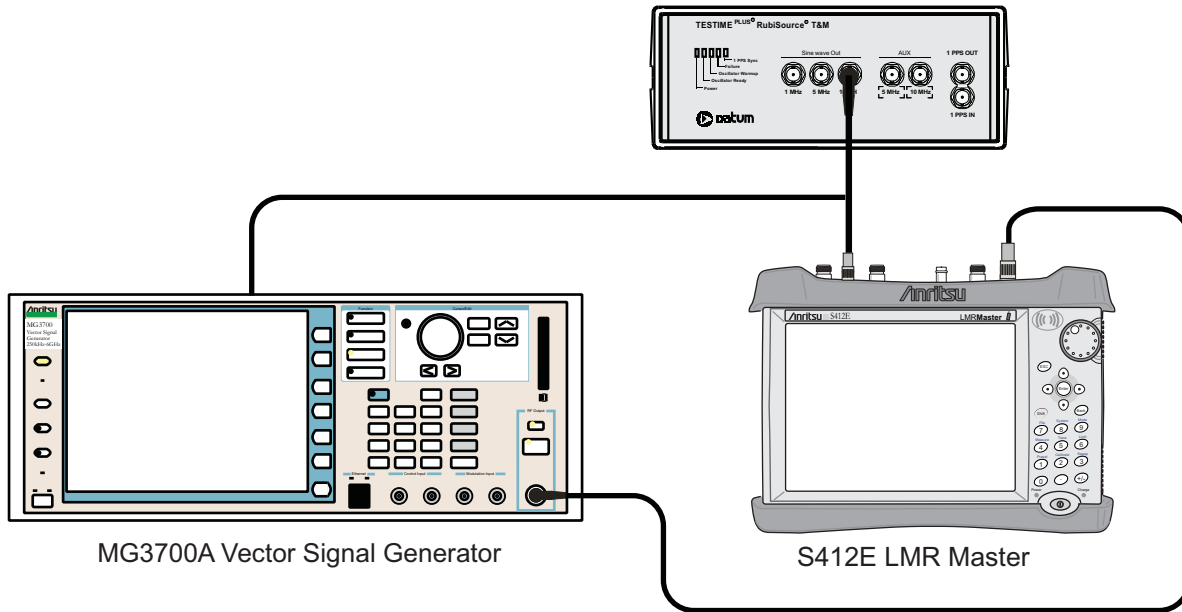

Figure 5-3. Mobile WiMAX Residual EVM and Frequency Error Test Setup
1. Connect the equipment as shown in Figure 5-3.